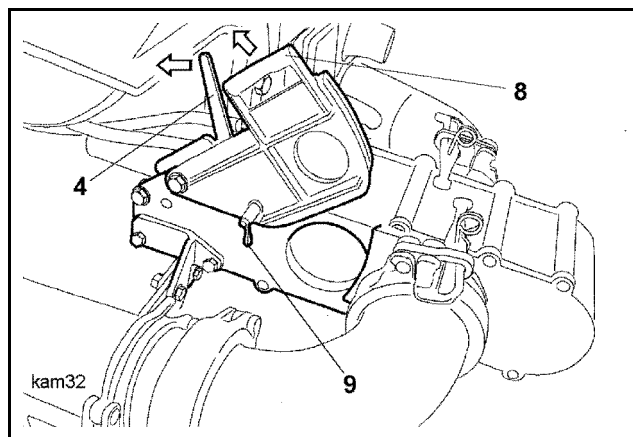

Fig. 463
- Shut the ball valve by pulling the lever (4) (**Fig. 463**) up 90° so that the hydraulic cylinders cannot be actuated and the ball flap can be opened.
- Open the flap of the chamber valve using the handle (8) and lock it in place with the toggle (9) (**Fig. 463**).
The flap can only be opened if the lever (4) (**Fig. 463**) is turned (ball valve closed).